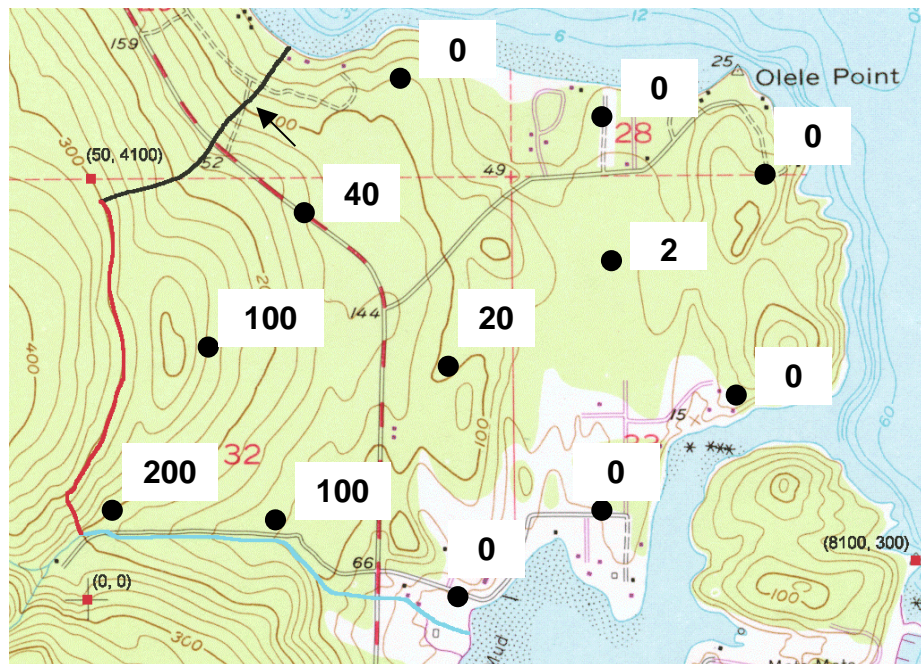

Figure 15.2 Locations and Elevations for New Points.
Next, we will create the points (vertices). We will create one point at each of the locations shown in Figure 15.2.
4. Repeat this process to create a point at each of the locations shown in Figure 15.2. Be sure to enter the proper elevation.